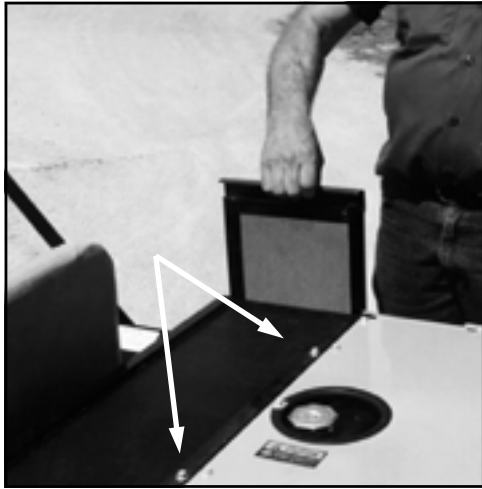

FIG 8.16
**REMOVAL** - The side grille screens are easily removed by sliding them up out of their housings (fig. 8.16). The top screen is held in place by two bolts (fig. 8.16) and may also be removed for cleaning.